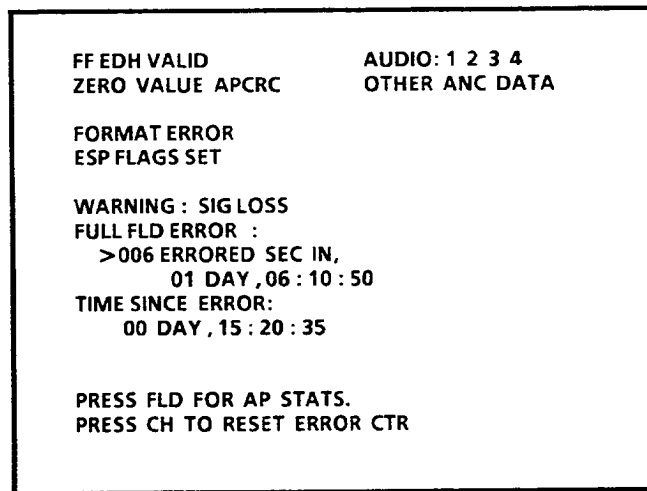

Figure 1-5: Full Field EDH readout screen
- a. Push the EDH READOUT switch and the display should change to the EDH readout. See Figure 1-5.